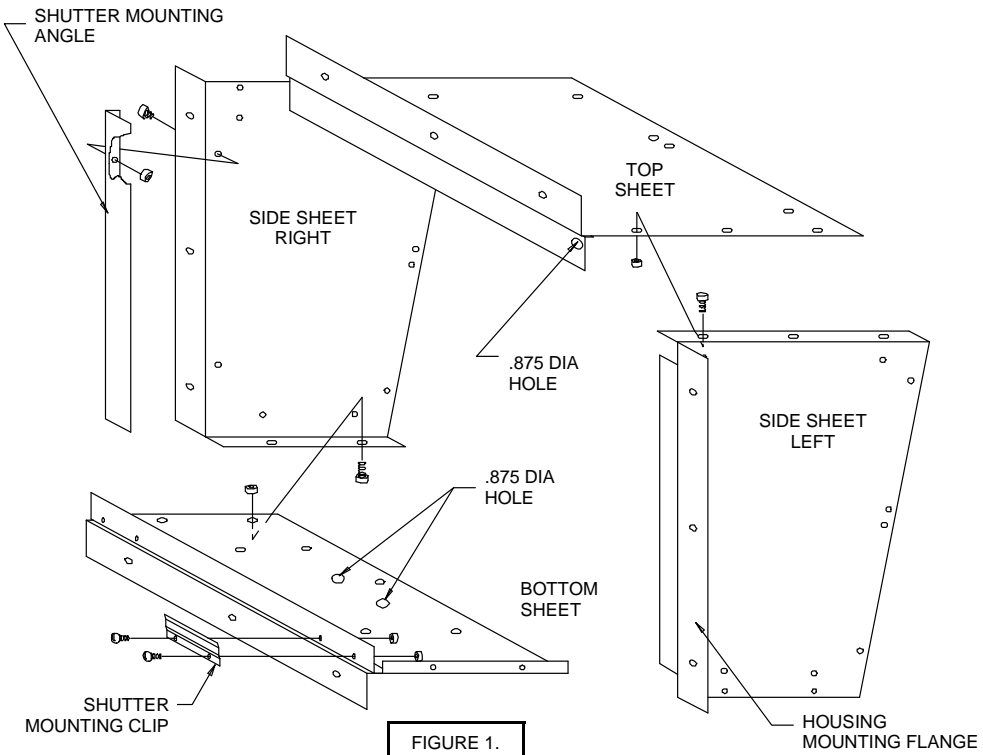
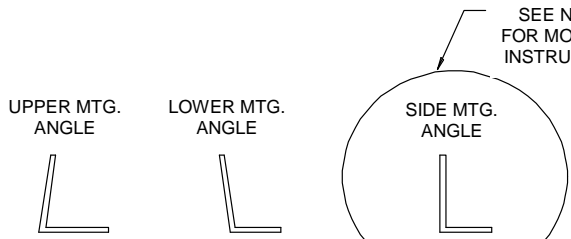
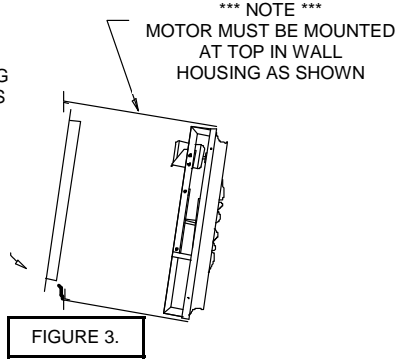

FIGURE 1.
FIGURE 2.
FIGURE 3.
- SEE FORM 220-40 INCLUDED WITH THE FAN FOR ASSEMBLY AND MAINTENANCE INSTRUCTIONS OF FAN AND MOTOR. FOR THE PROPER MOUNTING OF THE MOTOR BRACKET TO THE FAN FRAME, DISREGARD FIGURE 1 ON FORM 220-40 AND INSTALL THE MOTOR BRACKET AS SHOWN IN FIGURE 3 OF THESE INSTRUCTIONS. MAKE SURE THE MOTOR IS MOUNTED ON TOP OF THE MOTOR BRACKET.
- THE SHUTTER MOUNTING ANGLES MUST BE ATTACHED TO THE WALL HOUSING SHEETS. THERE ARE 4 MOUNTING ANGLES OF WHICH TWO ARE THE SAME. IDENTIFY THE MOUNTING ANGLES PER FIGURE 2. THERE ARE 4 WALL HOUSING SHEETS -- THE TWO THAT ARE THE SAME SIZE ARE THE SIDE SHEETS. THE SMALLER RECTANGULAR SHEET IS THE BOTTOM. THE LARGER RECTANGULAR SHEET IS THE TOP. USING 1/4" NUTS AND BOLTS, FASTEN THE SHUTTER MOUNTING ANGLES TO THEIR RESPECTIVE HOUSING SHEETS SO THAT THE TURNED IN FLANGE OF THE ANGLE IS FLUSH WITH THE HOUSING MOUNTING FLANGE. SEE FIGURE 1.
- ASSEMBLE THE BOTTOM AND ONE SIDE SHEET TOGETHER USING 1/4" NUTS AND BOLTS AS SHOWN IN FIGURE 1. THEN PLACE THE FAN ON THE BOTTOM HOUSING SHEET ALIGNING THE HOLES IN THE FAN FLANGES WITH THE FAN MOUNTING HOLES IN THE WALL HOUSING SHEETS. **CAUTION:** FOR PROPER SHUTTER CLEARANCE, THE FAN MUST BE MOUNTED IN THE HOUSING WITH THE MOTOR AT THE TOP OF THE HOUSING AS SHOWN IN FIGURE 3. NOW, ASSEMBLE THE REMAINING HOUSING SHEETS AROUND THE FAN USING 1/4" NUTS AND BOLTS FOR THE HOUSING ASSEMBLY AND FOR MOUNTING THE FAN PANEL TO THE HOUSING. **NOTE: WHEN PLACING A NBF FAN IN THE HOUSING, YOU WILL USE A FLATWASHER ON BOTH THE INSIDE OF THE FAN PANEL FLANGE AND THE OUTSIDE OF THE HOUSING SHEET. WHEN PLACING A NBR, NCF, NEF OR FD FAN IN THE HOUSING, YOU WILL USE A FLATWASHER ON THE OUTSIDE OF THE HOUSING SHEET.** WHEN ASSEMBLING THE WALL HOUSING, DO NOT TIGHTEN ANY HARDWARE UNTIL ALL BOLTS ARE IN PLACE OR IT MAY BE DIFFICULT TO ALIGN SOME HOLES.
- ATTACH THE SHUTTER MOUNTING CLIPS TO THE BOTTOM SHUTTER MOUNTING ANGLE USING #10 NUTS AND ROUND HEAD BOLTS. SEE FIGURE 1. WHEN MOUNTING THE SHUTTER TO THE WALL HOUSING, SLIDE THE TOP SHUTTER FLANGE UNDER THE TOP SHUTTER MOUNTING ANGLE AND THEN SLIDE THE SHUTTER DOWN UNTIL THE BOTTOM SHUTTER FLANGE RESTS BETWEEN THE SHUTTER MOUNTING CLIP AND THE BOTTOM SHUTTER MOUNTING ANGLE. SEE FIGURE 3.